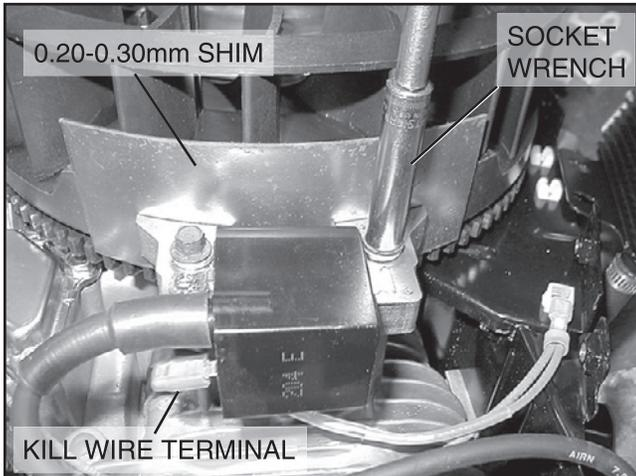

Figure 13-13. Adjust Air Gap
2. Place 0.20-.30mm (.008"-.012") thickness, non-magnetic gauge between magnet and coil laminations, Figure 13-13.